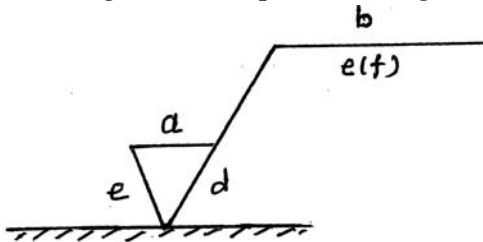

Fig. No. 03
- iii) Refer Fig. No. 03. Explain meaning of every term.